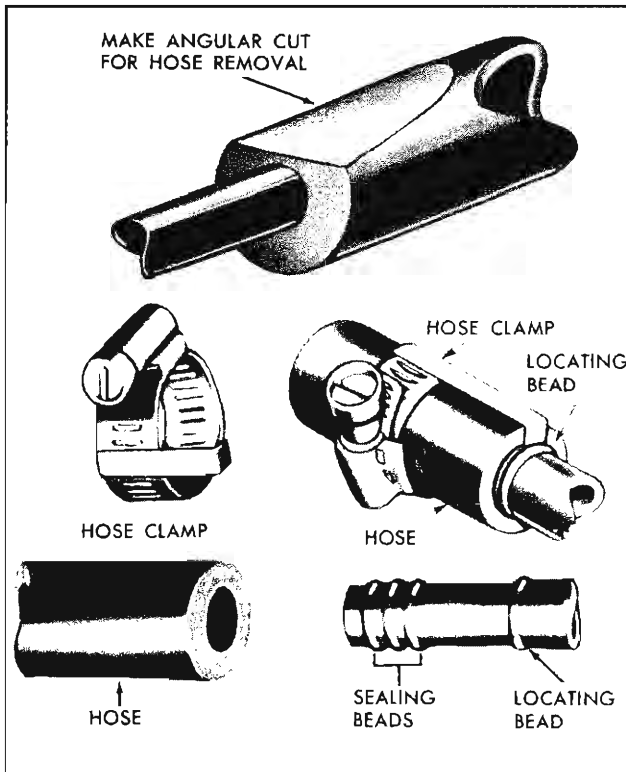

Fig. 40—Hose Clamp Connections
#### Hose Clamps (Fig. 40)
1. Carefully, with a sharp knife, make an angle cut in the hose as shown in Figure 40. This should loosen the hose so that it may be worked off the fitting.